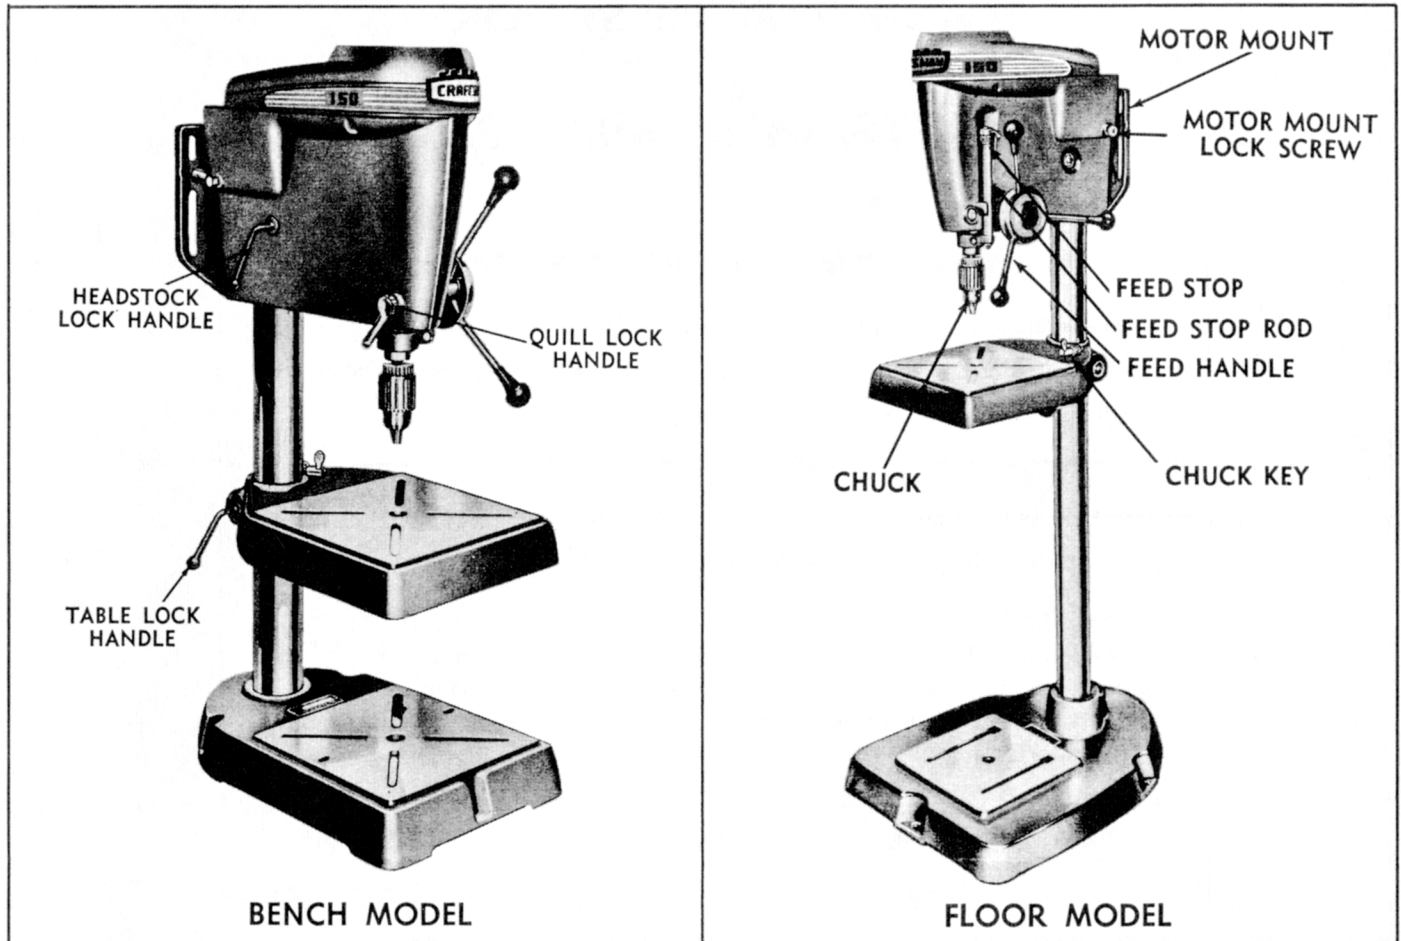

FIGURE 1
Place **feed handles** on tool as shown in Fig. 1.
Place the chuck key in the hole provided at side of table support, see Fig. 1.
To install motor loosen the motor mount lock screws, Fig. 1, until the motor mount may be removed. Fasten the motor to the motor mount with the bolts, nuts, and washers provided so that when motor mount is reinstalled on the tool, the larger portion of the mount will be down. For convenience, if your motor has a switch, and rotation will be correct, place motor on motor mount so that the switch is on the left side. **Direction of rotation of the spindle must be clockwise when viewed from pulley end of spindle.**
To change the locked position of table lock handle or headstock lock handle (Fig. 1), remove handle and rotate table lock, item 66, or headstock lock, item 51, 180°. Re-insert and tighten lock handle.
The **Quill Lock Handle**, (Fig. 1) for greatest ease of operation should point **down** when **locked**. To change the position of the handle, loosen the set screw, remove handle from hex head screw and rotate to correct position. Replace handle and tighten set screw.